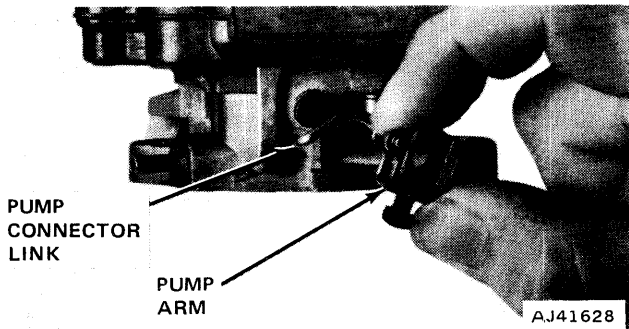

Fig. 4-23 Pump Arm and Link
(5) Turn pump main body casting upside down and catch accelerating pump discharge check ball and weight.
(6) Loosen throttle shaft arm screw and remove arm and pump connector link (fig. 4-23).